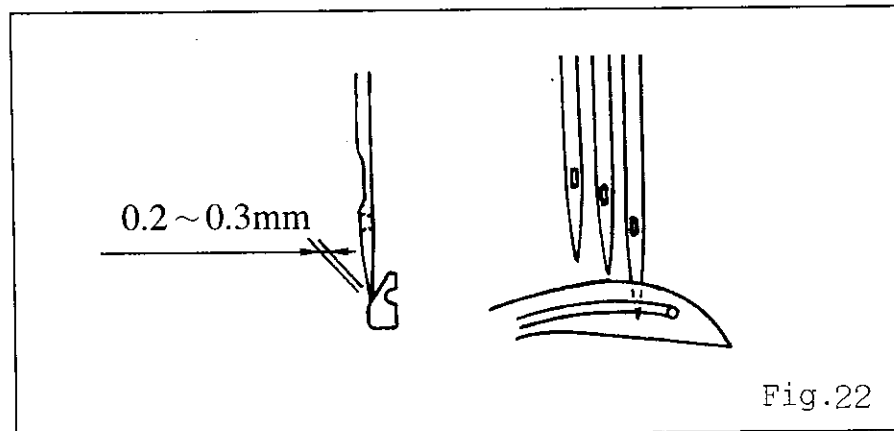

Fig.22
3. When the Loper reversed, the right needle stick on 1/4 be high of the Loper's slant edge. (Fig 22)